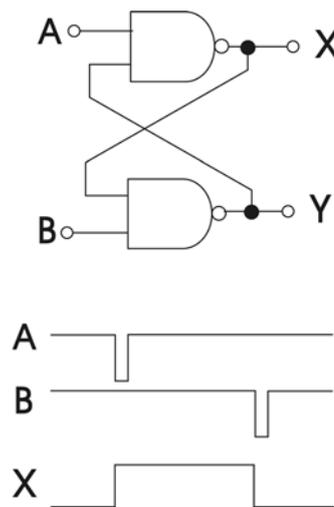
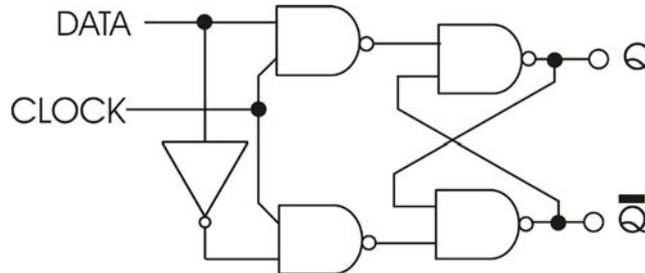

Figure 22 – A basic memory device
Figure 23 – D-type bi-stable
The basic memory device is formed from two simple gates as illustrated in Figure 22. Assume that inputs A and B are both TRUE (HI), look at the top gate and imagine that the other input (equivalent to output Y) is also HI. Because the gate is a NAND, the output X will be LO. The bottom gate will therefore be in the following condition, input B will be HI, its other input (effectively X) will be LO and its output (Y) will therefore be HI; which is what we imagined. In other words, this circuit will sit happily in this condition; it is said to be a *stable* state.
To set the state of the memory it's necessary momentarily to pull either the A or B input LO. The action of these two inputs is illustrated in Figure 22 too. Note that pulling A LO causes the flip-flop to go into one of its possible states and input B causes it to go to the other. For this reason inputs A and B are usually termed the *RESET/SET* inputs and this
type of bi-stable is called as *RESET-SET (or R-S) flip-flop*. Note that in the basic NAND flip-flop circuit in Figure 22, if both inputs go to 0, both outputs go to 1. This condition should be avoided in normal operation.
Referring to Figure 22, because the input A “sets” the Q output to 1 (TRUE), it is labelled \overline{S} (the bar is there to indicate a low-state to set). Similarly the \overline{R} for *reset*. The output \overline{Q} is the logical complement of the Q output. The addition of further gates enhances the bi-stable so that it may be forced one or other state by the action of a single data (D) input, the logical state (0 or 1) of this input being gated by a further clock pulse (as illustrated in Figure 23).
Figure 24 – Illustrates how an “edge” signal may be generated using a series of gates as shown (left). The addition of this edge triggering to the circuit of Figure 23 produces the edge-triggered, D-type flip-flop (right)